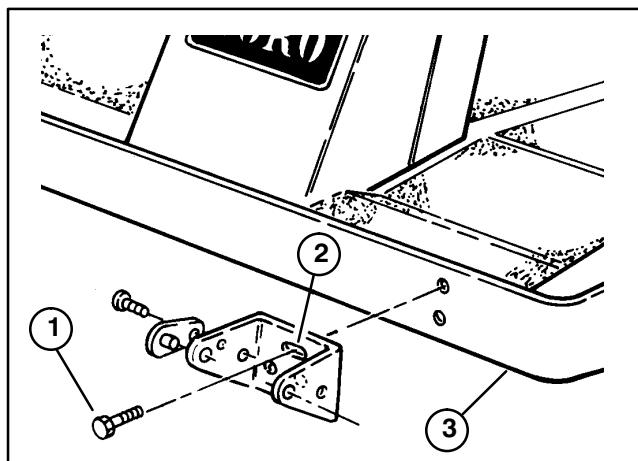

Figure 9
3. To install the mounting brackets, insert (2) 3/8-16 x 1" lg. flangehead capscrews through the slotted bracket holes. Thread the screws into the captivated frame nuts and torque to 45-50 ft-lb (Fig. 9).